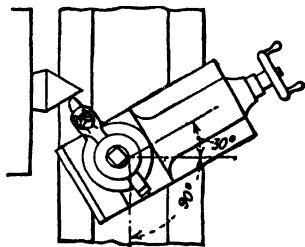

Fig. 16-14. Setting compound rest.
*To illustrate (2):* Suppose it is required to turn a lathe center 60 deg. included angle, the angle with the center line is then 30 deg. Swivel the rest to the right, 90 deg. from its original position; then swivel it 30 deg. more as shown (Fig. 16-14). If